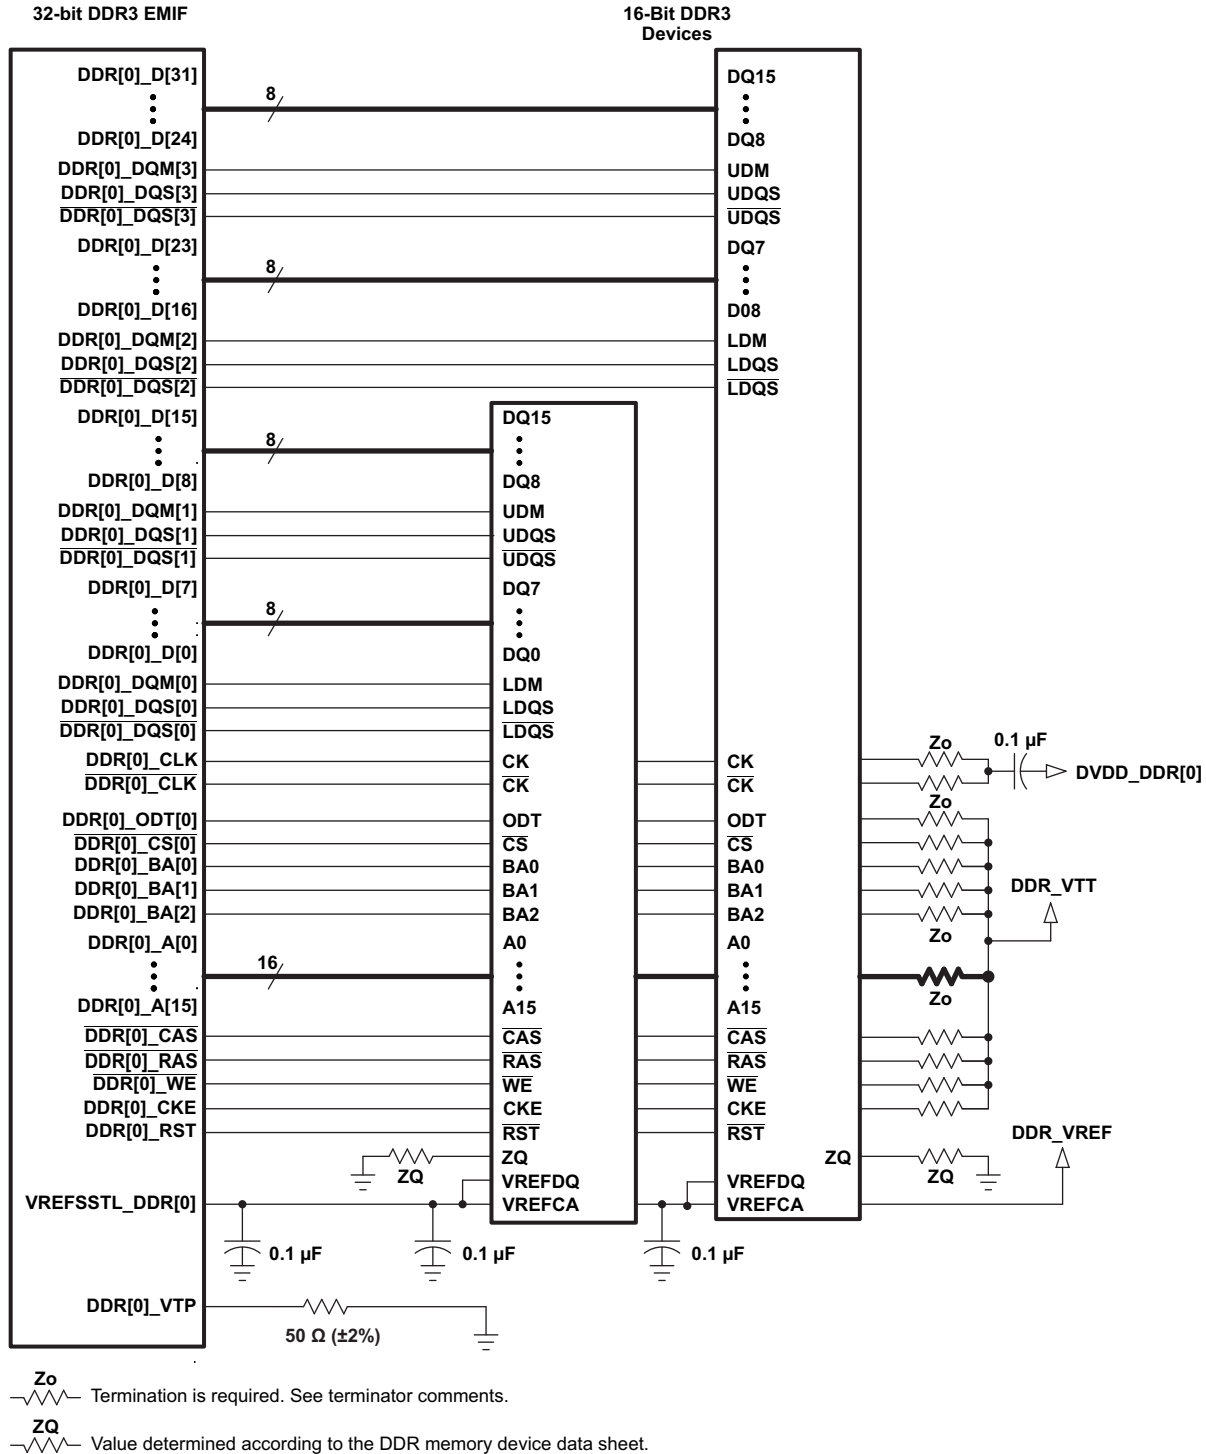

Figure 8-56. 32-Bit, One-Bank DDR3 Interface Schematic Using Two 16-Bit DDR3 Devices
The DDR3 interface schematic varies, depending upon the width of the DDR3 devices used and the width of the bus used (16 or 32 bits). General connectivity is straightforward and very similar. 16-bit DDR devices look like two 8-bit devices. Figure 8-56 and Figure 8-57 show the schematic connections for 32-bit interfaces using x16 devices.
Note that the 16-bit wide interface schematic is practically identical to the 32-bit interface (see Figure 8-56 and Figure 8-57); only the high-word DDR memories are removed and the unused DQS inputs are tied off. The processor `DDR[0]_DQS[2]` and `DDR[0]_DQS[3]` pins should be pulled to the DDR supply via 1-kΩ resistors. Similarly, the `DDR[0]_DQS[2]` and `DDR[0]_DQS[3]` pins should be pulled to ground via 1-kΩ resistors.
(1) DDR3 speed grade depends on desired clock rate. Data rate is 2x the clock rate. For DDR3-800, the clock rate is 400 MHz.
(2) DDR3 devices with higher speed grades are supported; however, max clock rate will still be limited to 533 MHz as stated in Table 8-59 *Switching Characteristics Over Recommended Operating Conditions for DDR3 Memory Controller*.
(3) For valid DDR3 device configurations and device counts, see Section 8.13.3.3, Figure 8-56, and Figure 8-57.